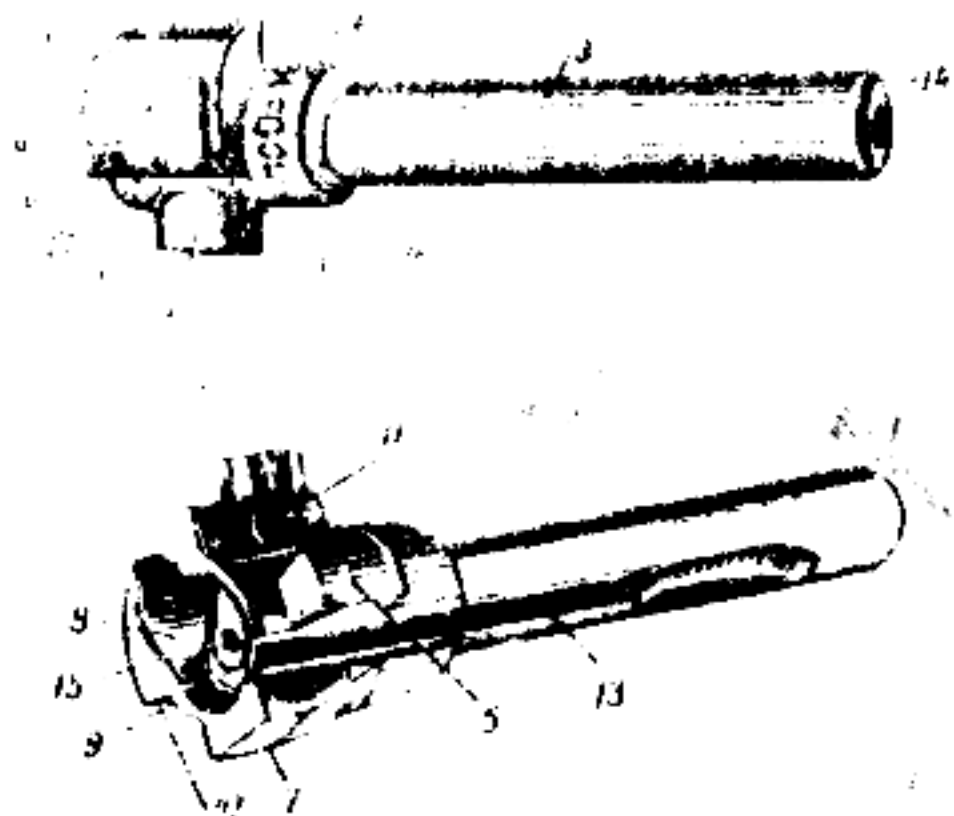

Figure 24. Bolt body (3-4).
The bolt body (fig. 24) serves to hold all the components of the bolt. The body consists of a bolt head, central cylindrical portion (2), and rear cylindrical portion (3).
The cam has two screw bevels (a and b) which engage with the corresponding screw bevels of the bolt guide (see fig. 24) in opening and closing the breech.